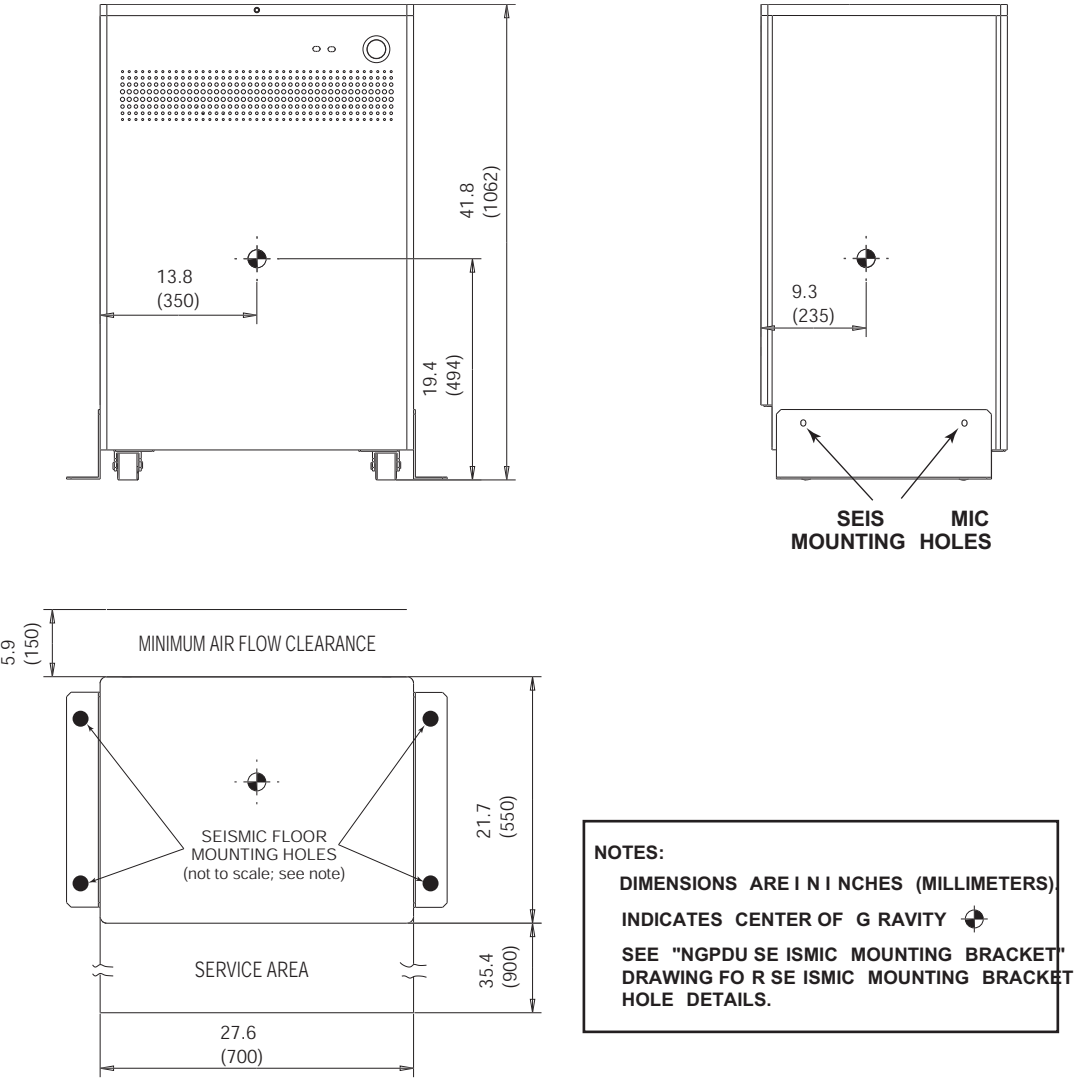

Figure 8-9 PDU Center-of-Gravity NGPDU-4 / NGPDU-6
- Power Distribution Unit: Figure 8-9 (NGPDU Seismic Mounting Bracket)